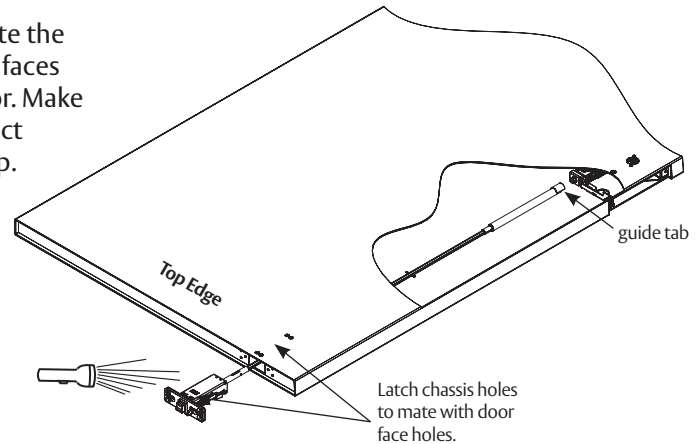

Figure 39
- Orient the latch chassis as shown. Rotate the rod and rod guide so the rod guide tab faces up. Slide the rod assembly into the door. Make sure the rod guide remains in the correct orientation with the guide tab facing up. (Figure 39)